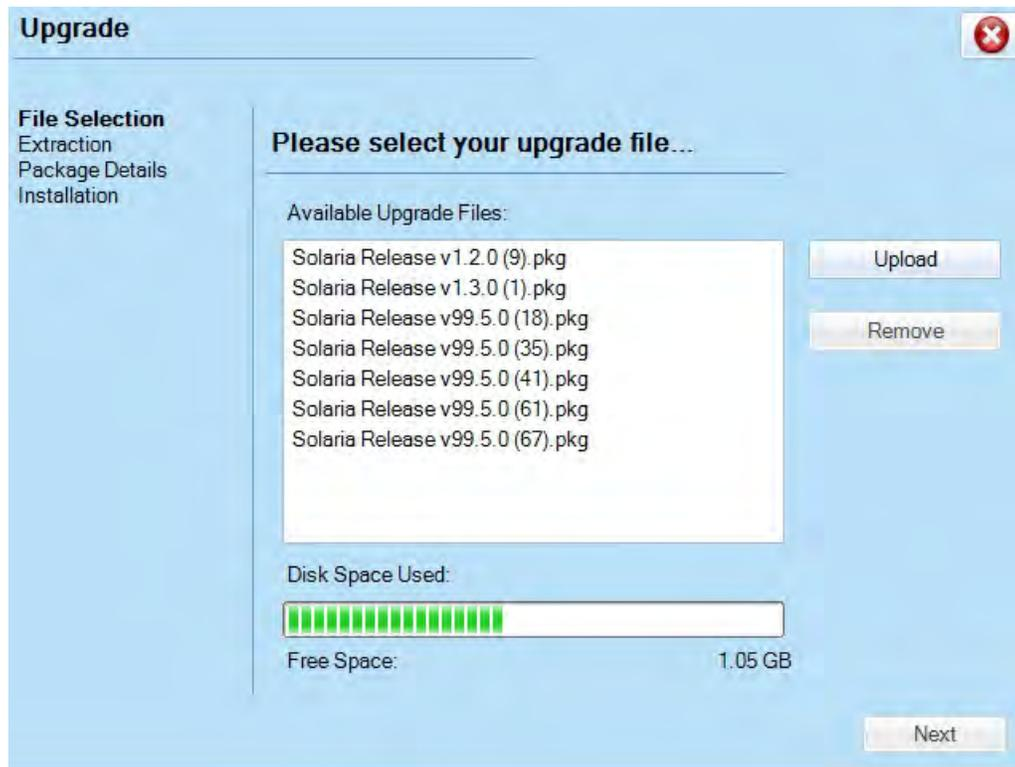

Figure 3-16 Upgrade: File Selection Window
- Insert the USB drive containing the upgrade package into the USB port on the TPC. Navigate to the **Administrator Setup: Marriage** window and touch the **Upload** button. (Figure 3-16). This launches a file selection dialog for you to navigate and select this file. Once complete, the system automatically advances to the **Extraction** window and begins extracting the upgrade package.
- From an FTP client, enter the projector IP address and enter the user name and password. Once connected, copy the upgrade package from the FTP site to the root folder of the projector. The upgrade package should display in the **Available Upgrade Files** region of the **File Selection** window. (Figure 3-16). Select the upgrade package and touch the **Next** button to advance to the **Extraction** window. **NOTE:** *After copying several upgrade packages to the root folder, an alarm will occur if the disk space becomes full. Navigate to the root folder and delete the older upgrade packages. Once removed, copy the current upgrade package again.*